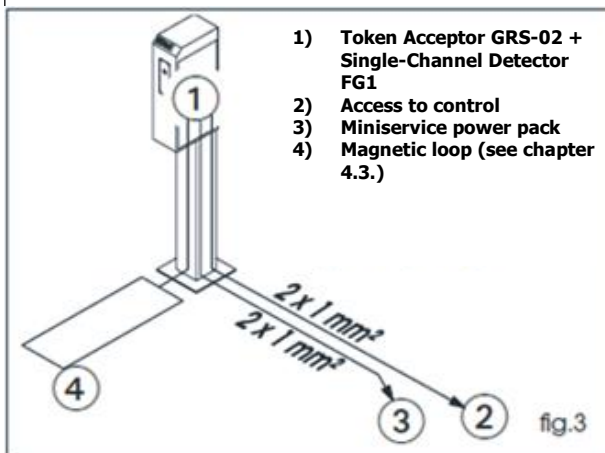

fig.3
- perform the electric preparations as shown in fig.3